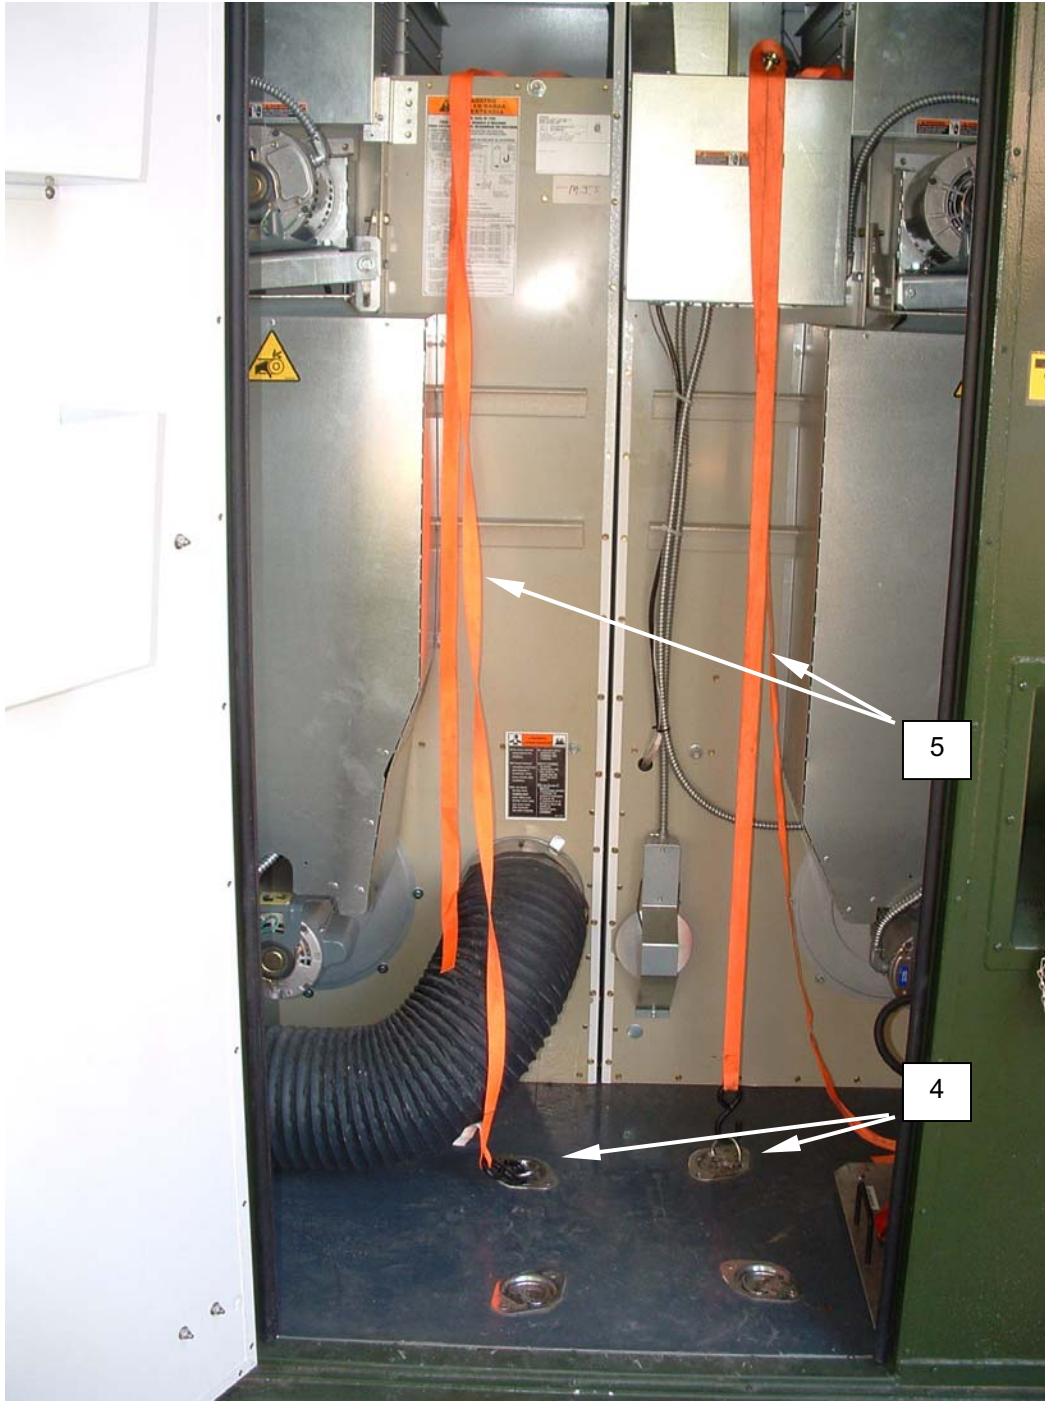

Figure 13. Pack the Footlocker in the CBL.
2. Attach two 1-inch straps (Figure 13, Item 5) to the inside D-rings (Figure 13, Item 4) and drape the straps up and out of the way.